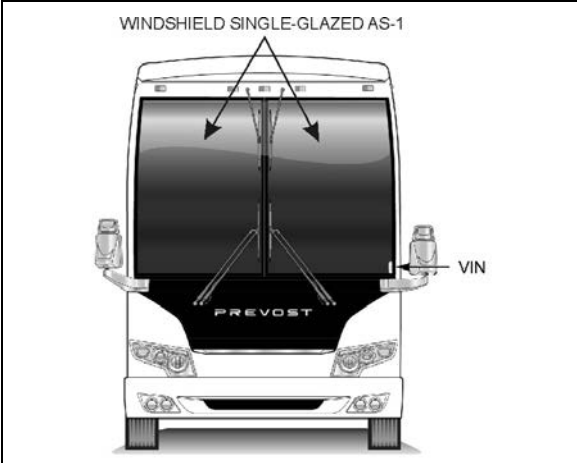

FIGURE 46: WINDSHIELD 18495A
6. Confirm that both latches are in the closed (latched) position. The upper edge of the latch opening must be aligned with upper edge of the sash opening (Figure 46)
Unless otherwise noted, body panels and doors should be aligned and centered with surrounding panels. In general, a gap of ¼ inch (6 mm) is desirable between panels. Refer to figure 46 for specified gaps.